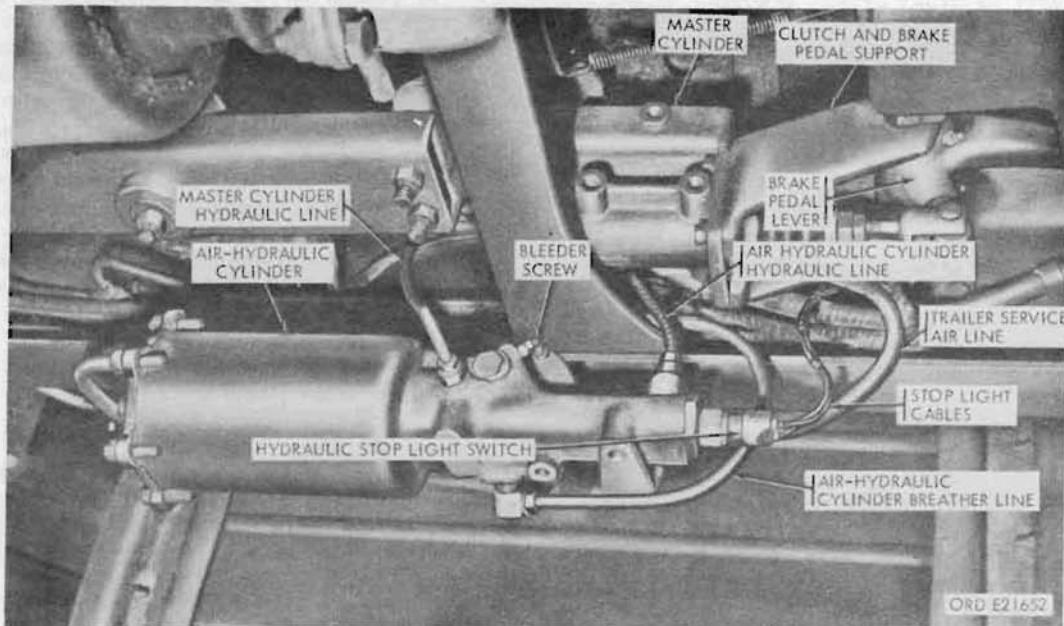
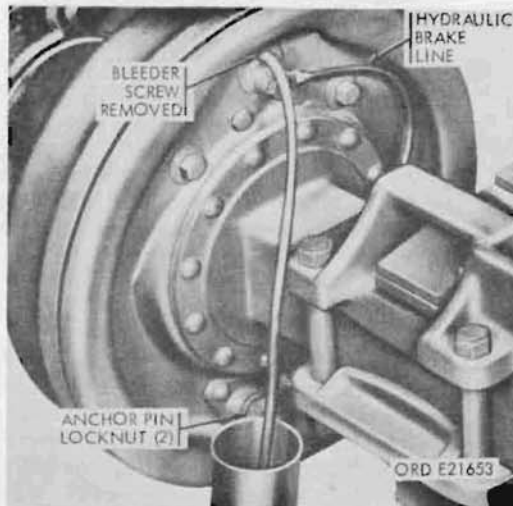
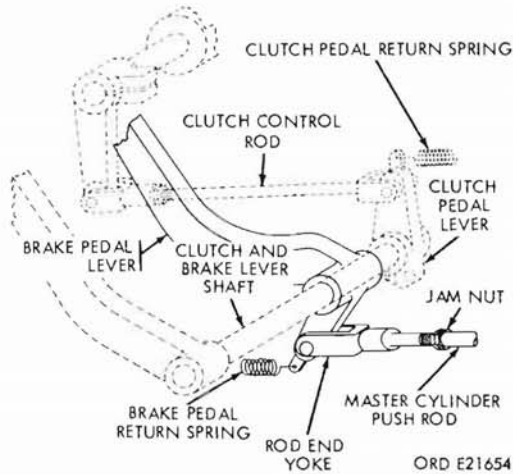

Figure 207. Air hydraulic cylinder
Figure 208. Bleeding service brake cylinder
Figure 209. Service brake pedal linkage
b. Master Cylinder (fig. 208). The master cylinder contains hydraulic fluid, acted upon by a piston operated by action of the service brake pedal. Pressure on the brake pedal is transmitted to the air-hydraulic cylinder which automatically increases fluid pressure to the wheel cylinders in direct ratio to the foot pressure applied to the brake pedal.
c. Air-hydraulic Cylinder (fig. 208). The air-hydraulic cylinder embodies an air cylinder and a hydraulic cylinder in tandem, fitted with a common piston rod. The air piston is of greater area than the hydraulic piston. This difference in areas gives a resultant hydraulic pressure much greater than the air pressure admitted to the air cylinder. The automatic valves, actuated by fluid pressure from the master cylinder, control the air admitted to the air cylinder. Thus, fluid pressure in brake lines is always in direct ratio to foot pressure on brake pedal. Air lines from air-hydraulic
- (1) If a pressure tank is used, connect the tank hose with proper size adapter to the master cylinder filler cap opening in top of cylinder reservoir. The pressure tank should contain between 10 to 20 psi air pressure and sufficient fluid to maintain constant fluid level in the master cylinder.
- (2) The air-hydraulic cylinder must be bled before bleeding the wheel cylinders. Clean the bleeder screw at the air-hydraulic cylinder (fig. 207) and wheel cylinders (fig. 208). Attach the bleeder hose to the air-hydraulic cylinder bleeder screw, and place the other end
a. General (Fig. 209). The brake pedal, mounted on the clutch and brake lever shaft with the clutch pedal, is linked to the master cylinder by an adjustable push rod. The push rod is adjusted at the rod end yoke to give correct brake pedal free travel (par. 179).
- (1) Remove clutch linkage. Disconnect the clutch and brake pedal return springs. Remove the safety nut and screw holding the clutch control rod on the clutch control lever, and remove the rod. Loosen the safety nut on the screw securing the clutch pedal lever on the lever shaft, and remove the lever and key.
- (2) Remove brake pedal and pedal lever. Remove the screw holding the pedal on the lever, and remove the pedal and pedal bumper. Disconnect the pedal lever from the master cylinder push rod. Pull the lever shaft from the clutch and brake pedal support, and remove the brake pedal lever.
a. **Adjustment.** Check the brake pedal free travel. Free travel should be not less than one-fourth and not more than one-half inch. Adjust the free travel to these limits by adjusting the master cylinder push rod (fig. 209). Remove the cotter pin and clevis pin attaching the push rod yoke to the brake pedal lever. Hold the push rod from turning, loosen jamnut, and turn yoke to obtain desired setting. Tighten jamnut and connect the yoke to pedal lever.
b. **Removal.** Disconnect the master cylinder line (fig. 207) at the top, and the master cylinder line at the rear of the master cylinder. Remove two screws holding the power-takeoff shift lever bracket to the side of the cylinder. Remove the clevis pin connecting the master cylinder push-rod yoke to the brake pedal lever (fig. 209). Remove four capscrews holding the master cylinder to the clutch and brake pedal support, and remove the master cylinder.
- (1) Open the compressed air reservoir draincocks (par. 222). Remove the metal shield from the lower side of the cylinder. Figure 207 shows the cylinder as installed with the shield removed.
- (2) Disconnect the master cylinder hydraulic line, air-hydraulic cylinder hydraulic line, air-hydraulic cylinder breather line, air-hydraulic cylinder air line, and trailer service air line from the cylinder.
- (3) Disconnect the stoplight cables from the hydraulic stoplight switch.
- (4) Support the cylinder, remove the bolt at the rear from the shell cover, and remove the cylinder.
- (1) Place the master cylinder (fig. 207) in position, and install four split lock-washer screws holding the cylinder to the clutch and brake pedal support. Install two screws holding the transmission power-takeoff shift lever bracket to the side of the master cylinder. Install the clevis pin with a cotter pin through the brake pedal lever and the push-rod yoke. Adjust the brake pedal free travel (a above).
- (2) Connect the master cylinder hydraulic line (fig. 207) at the rear of the master cylinder.
- (3) Remove the filler cap and fill the master cylinder reservoir to within one-half inch of the top. Bleed the brake system (par. 177). Install the double baffle-type filler cap, using a new gasket when necessary, and attach the breather line.
- (2) Disconnect hydraulic line. Disconnect the hydraulic brake line (fig. 208) from the wheel cylinder at the rear of flange plate.
- (2) Connect hydraulic line. Connect the hydraulic brake line (fig. 208) to the wheel cylinder.
- (3) Install service brakedrum. If the brake hub was removed, install the brake hub (par. 205). If not, install the brakedrum (par. 182).